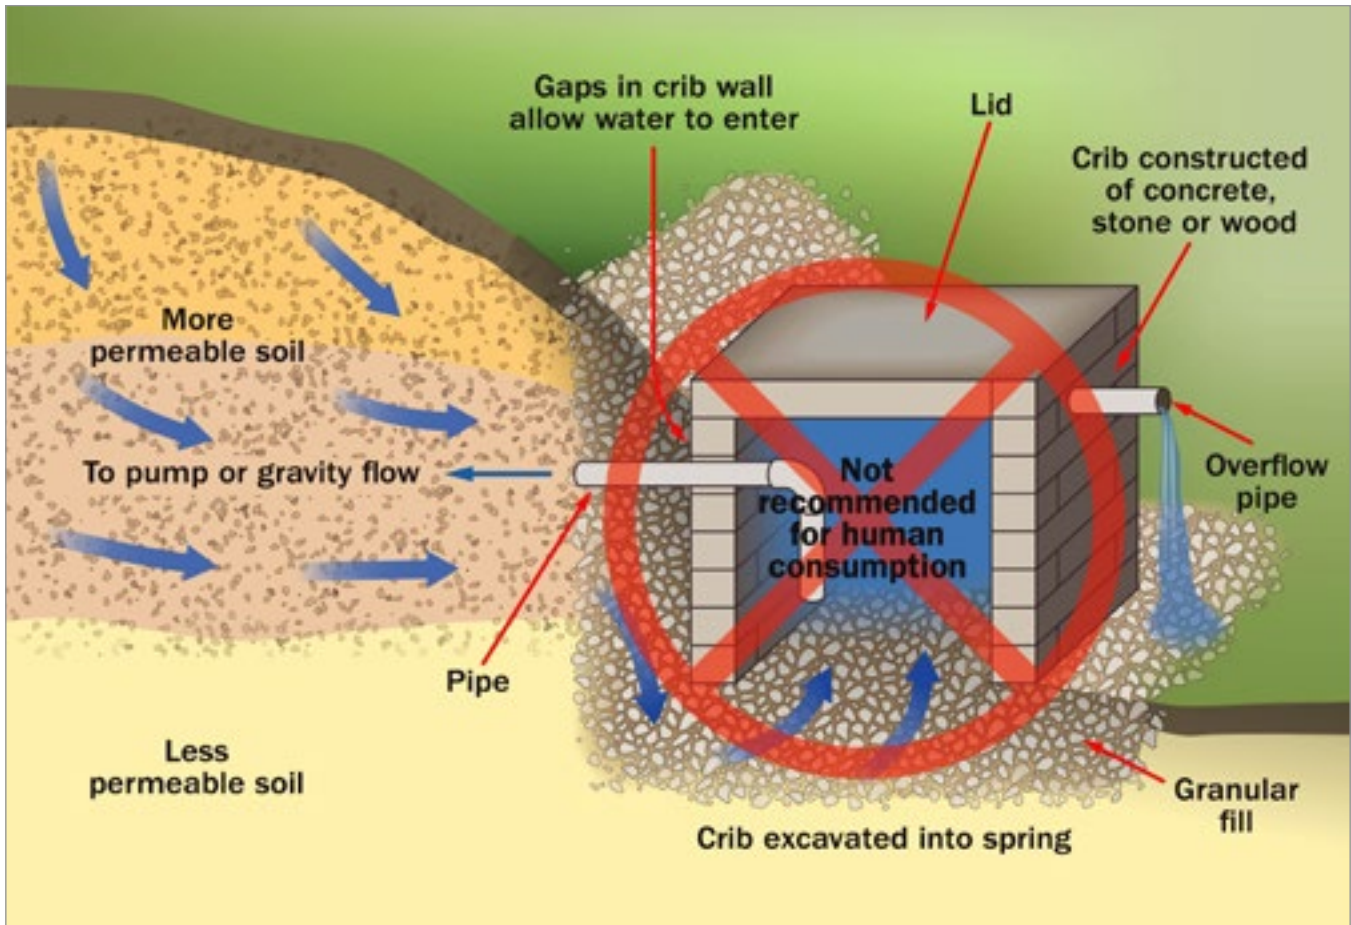

Figure 3. A spring and spring box are vulnerable to contamination, as contaminated surface water can enter freely.
- **Spring boxes** are constructed around a spring to collect water for more efficient pumping (Figure 3). Springs occur where groundwater flows on or near the ground surface. The source of spring water is unknown, and it is highly vulnerable to contamination from natural and human sources once it reaches the surface because the spring usually has a thin or no protective soil layer. Springs sometimes flow year-round, but many do not. A spring is not considered a well.